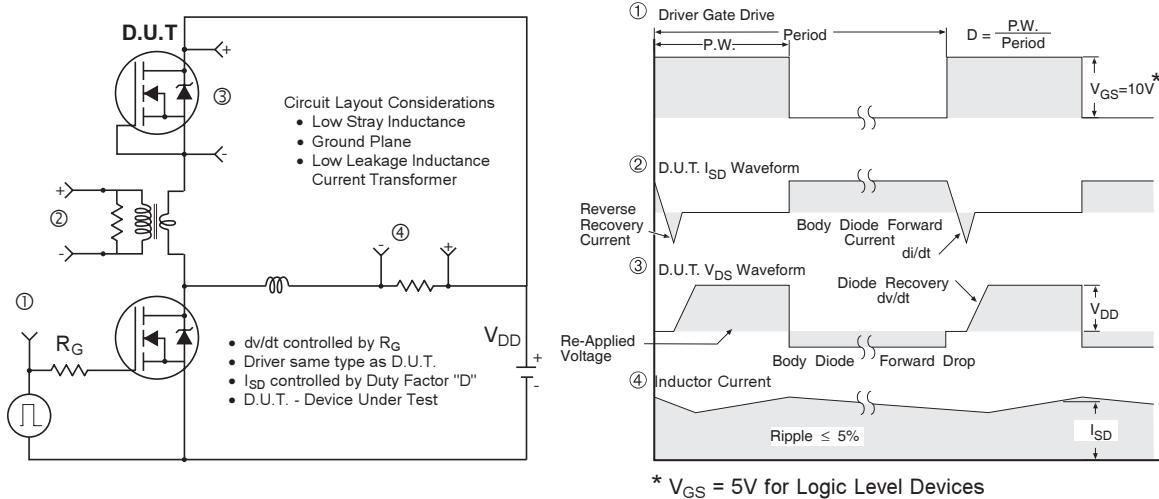

Fig 20. Peak Diode Recovery dv/dt Test Circuit for N-Channel HEXFET® Power MOSFETs
**Fig. 16.** Threshold Voltage vs. Temperature**Fig. 17 -** Typical Recovery Current vs. di_f/dt **Fig. 18 -** Typical Recovery Current vs. di_f/dt **Fig. 19 -** Typical Stored Charge vs. di_f/dt **Fig. 20 -** Typical Stored Charge vs. di_f/dt
4/28/2014	<ul style="list-style-type: none">• Updated data sheet with new IR corporate template.• Updated package outline & part marking on page 8.• Added bullet point in the Benefits "RoHS Compliant, Halogen -Free" on page 1.• Updated typo on the Fig.19 and Fig.20, unit of Y-axis from "A" to "nC" on page 6.